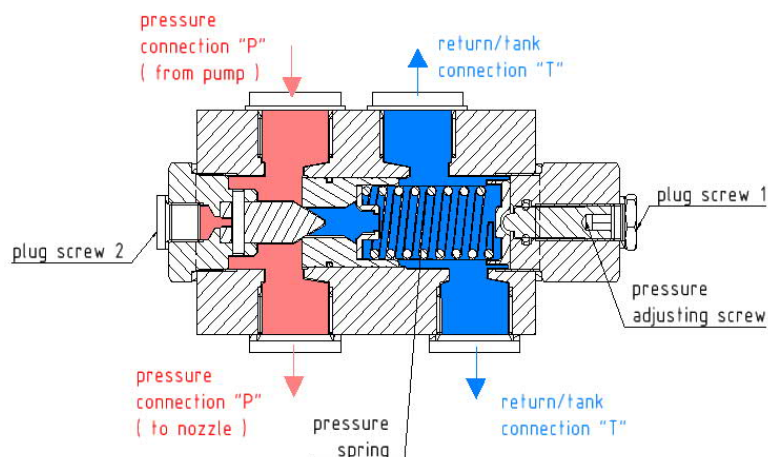

Fig.1 Operating principle
- Should there be no manometer attached, please remove the plug screw 2 and fit one to the manometer connection G1/4" (Fig. 1).
- hp-overflow valves have been factory-set to the lowest possible pressure level of the respective pressure stage. In order to set the desired operating pressure, first remove the plug screw 1 (see Fig.1) to reveal the adjusting screw beneath.
- Now switch on the unit's pump and turn the adjusting screw to the right to adjust the operating pressure to the desired setting (turn the setting screw to the right – clockwise -> to increase the pressure, turn the setting screw to the left – counterclockwise -> to decrease the pressure. For a reading of the set value, Section 4.13 of DIN EN 12514-2, Issue 2000 calls for a manometer to be attached to the unit. Should there be no manometer attached, please remove the plug screw 2 (see Fig.1) and fit one to the manometer connection.